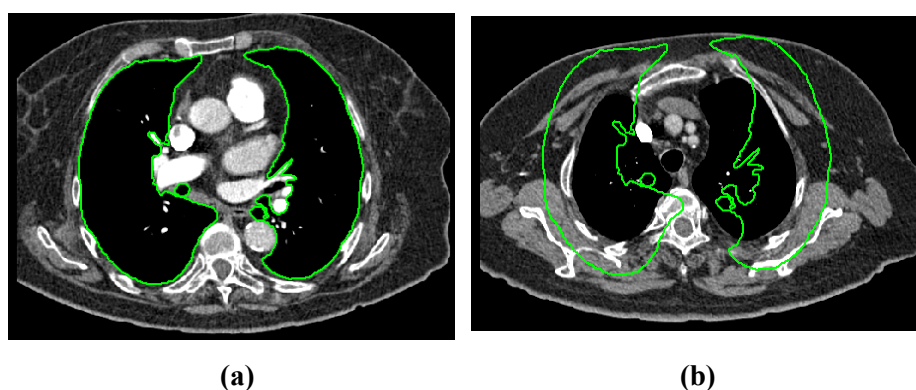

Figure 258 – Contour on the last image (a), Accepted nearest contour from the last image into the 1st image (b)
3. The nearest drawn contour is then automatically copied to the current image (see Figure 258).